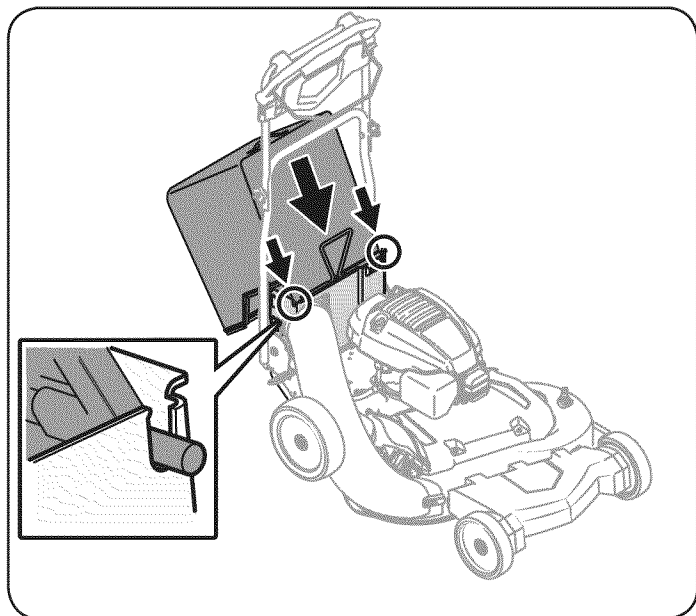

Figure 12
- Place grass bagger into the slots on the rear discharge support bracket. See Figure 12 inset.